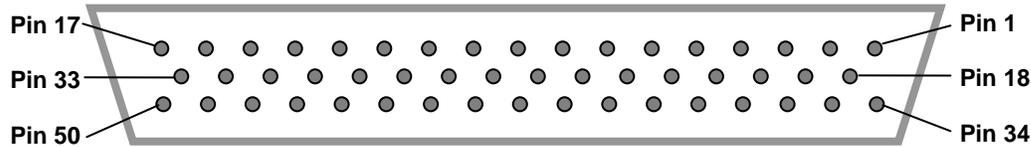

Fig. 4.4-2 Pin out of 50-pin EXTERNAL INTERFACE connector as seen from outside the unit. (All even-numbered pins are at ground.)
- b. Refer to Table 4.4-1 and Fig. 4.4-2 for the pinout of the **EXTERNAL INTERFACE** connector. For each supply, there are a pair of pins: (1) signal program to connect to the voltage programming signal and (2) common to reference the system to ground.
- b. Refer to Table 4.4-1 and Fig. 4.4-2 for the pinout of the **EXTERNAL INTERFACE** connector. For each meter, there are a pair of pins: (1) signal output to connect to the output measuring device and (2) common to reference the system to ground.